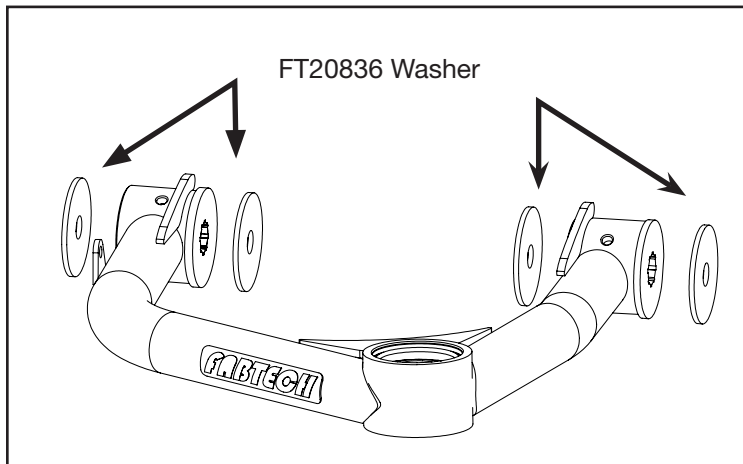

FIGURE 6 - STEP 7
7. Install the FT20868 (Driver) & FT20869 (Pass) upper control arms using the supplied M14 hardware. Install the bolts with the bolt head inside the tower and the threaded end outside. **NOTE: When installing the arms, install a FT20836 (washer) on both sides of the bushings. Do not tighten at this time. Final locktite/ torque procedure will be done at step 11. SEE FIGURE 6**